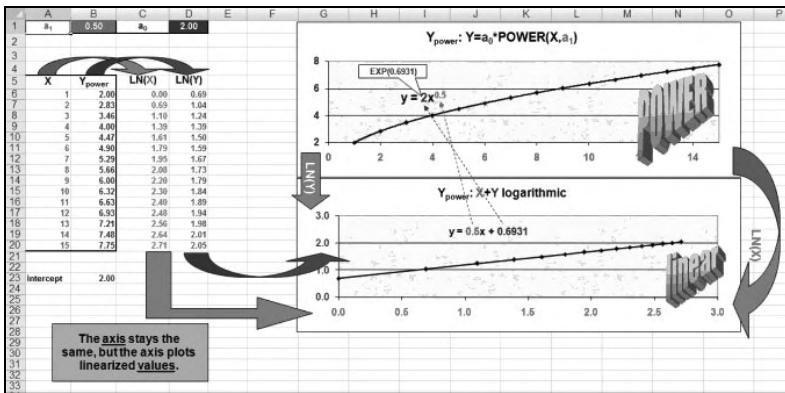

Figure: 4.16
- Power: Figure 4.16 shows a power curve in its top graph. In order to linearize a power curve, you must apply the LN function to both x values and y values. In this case, you find linearized values on both axes of the bottom graph.